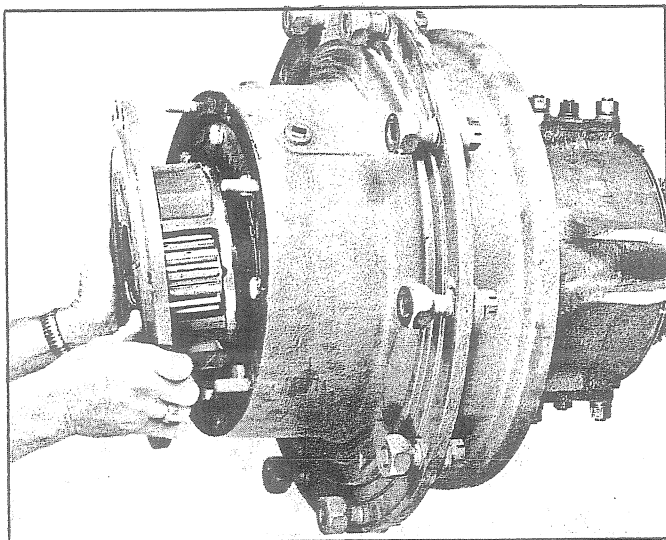

Fig. 35 - Installing Planetary Assembly
29. Install planetary assembly as shown in Fig. 35. Install nuts and bolts to secure the planetary assembly to the hub. Tighten the nuts and bolts to 80-90 ft.-lbs. torque.